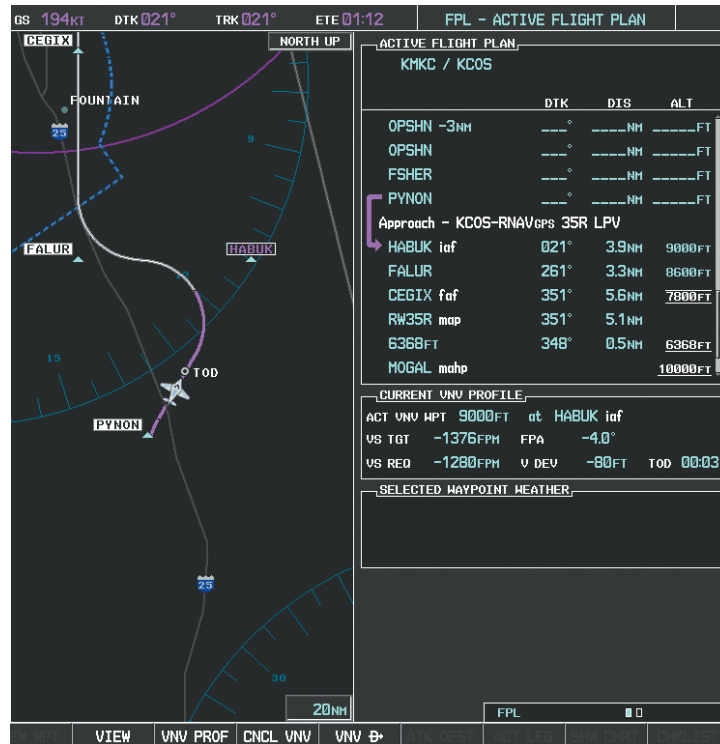

Figure 5-145 Approach is Now Active
- 21) Upon passing PYNON the approach procedure automatically becomes active. The approach may be activated at any point to proceed directly to the IAF. In this example, the aircraft has progressed through the final waypoint of the arrival and the flight plan has automatically sequenced to the IAF as the active leg, activating the approach procedure (see Figure 5-145).